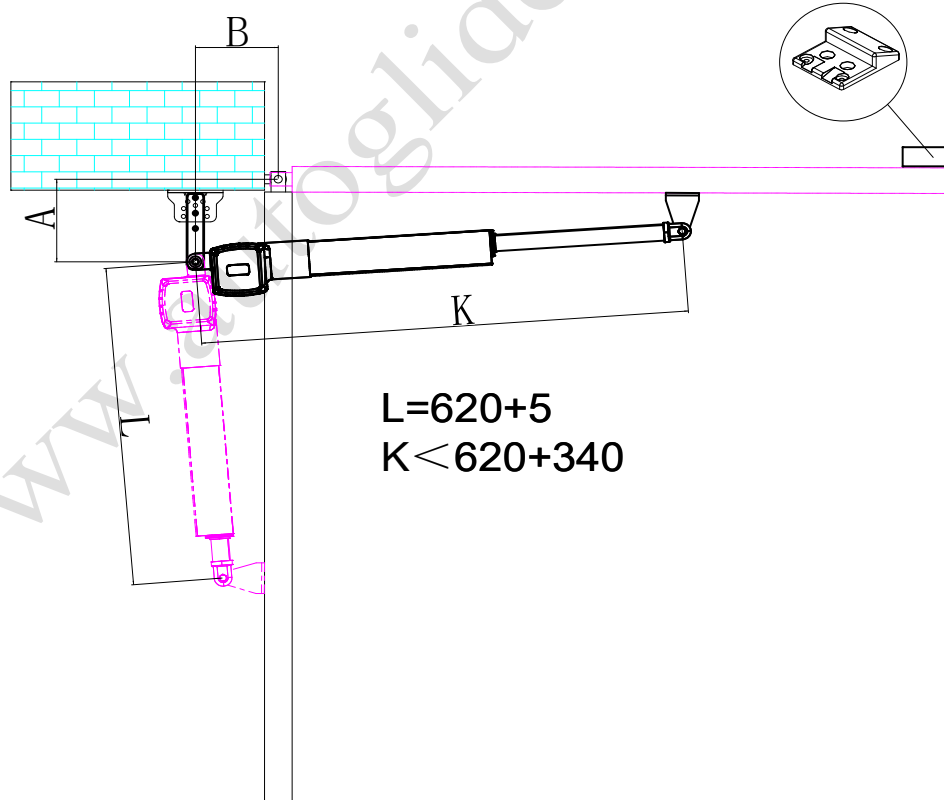

Figure 8
- To ensure safety, when door open facing outward, the safety block must be installed at the OPEN limit position to prevent the door opening angle from exceeding the machine range; the safety stopper must be installed at the CLOSE limit position, to make two doors stopping at the CLOSE limit position accurately (as shown in figure 10, 14). When door open facing inward, the safety stopper must be installed at the CLOSE limit position (as shown in figure 8, 12).